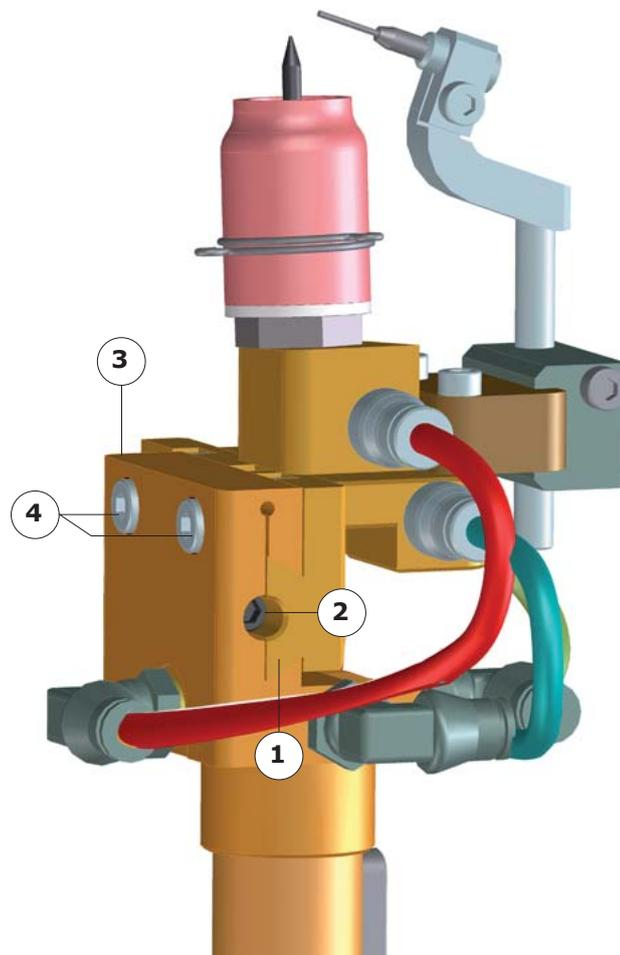

Fig.5.25 - Adjusting the diameter to be welded
- Loosen the screws (Fig.5.25 - 4) beforehand.
- The diameter to be welded is adjusted using the torch kit slide (Fig.5.25 - 1).
- Using a no. 3 Allen key, adjust the position of the adjusting screw (Fig.5.25 - 2). To make it easier, place the tube on the centrer in order to view the position of the electrode relative to the tube.
- Once adjustment has been carried out, tighten the dovetail (Fig.5.25 - 3) using the two screws (Fig.5.25 - 4). Tightening is important in order to ensure there is good electrical contact for the welding operation.